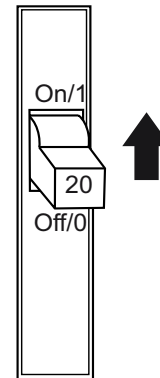

Figure 61. GFCI Circuit Breaker
2. Place a **GFCI circuit breaker** (Figure 61) in the **ON** position.